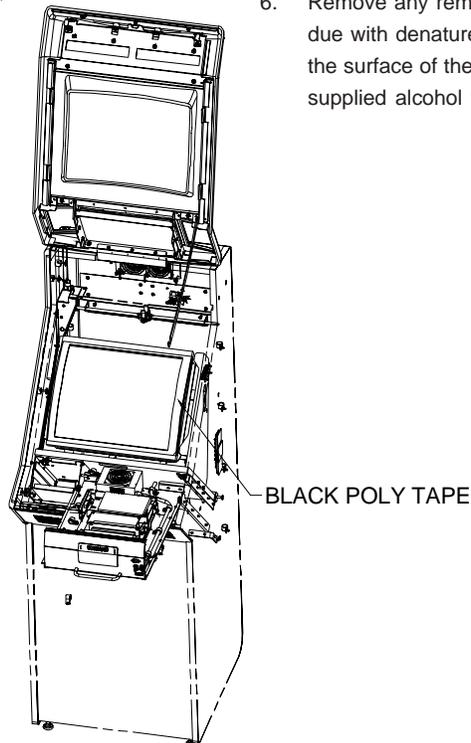

FIGURE 16 - FORCE UPRIGHT (NON-FUSION) TOUCHSCREEN ACCESS
**Upright without coin door:** Unlock and open the front bezel (see Figure 16).
3. Remove the black poly tape (see Figure 16) from around the edges of the old touchscreen, keeping the manner in which the tape was placed around the screen in mind.